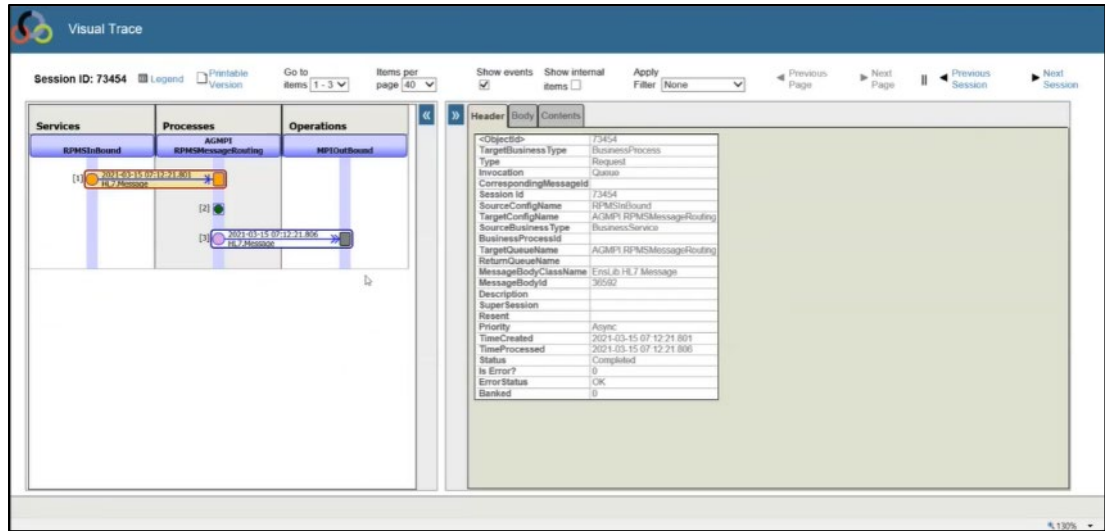

Figure 5-6: Visual Trace window
8. The **Visual Trace** window has two panes (Figure 5-6). The left pane shows the trace and displays a graphic representation of the **Services**, **Processes**, and **Operations** related to the selected message. Clicking on any of the elements in the trace brings up the details for that element. The right pane shows one of three tabs: **Header**, **Body**, **Contents**.